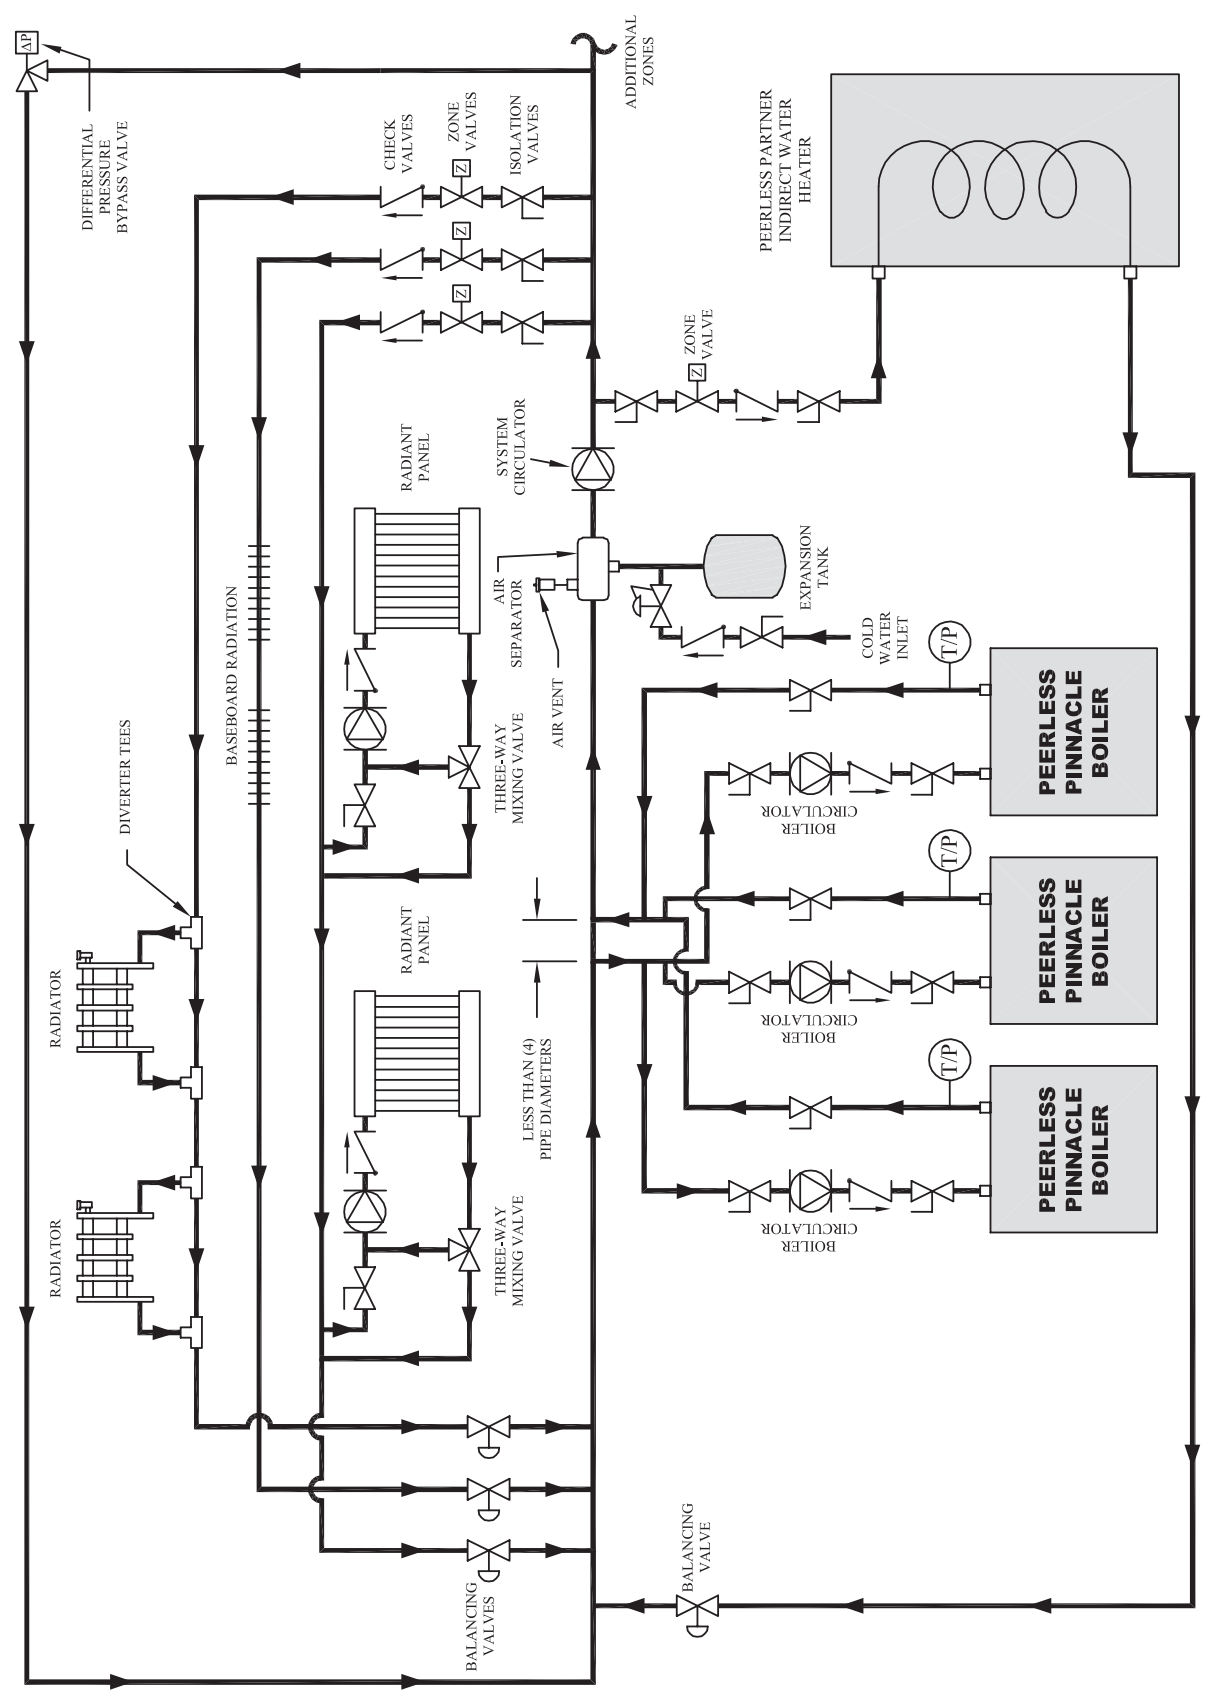

Figure 3.7: Three Boilers, Primary/Secondary with Four Zones (Zone Valves)
- Figure 3.7 shows zone valves used in place of zone circulators. Notice that this system utilizes reverse return piping which makes it easier to balance the system. If the heating zones are very different in length, the balancing valves on the return side of each loop are required.